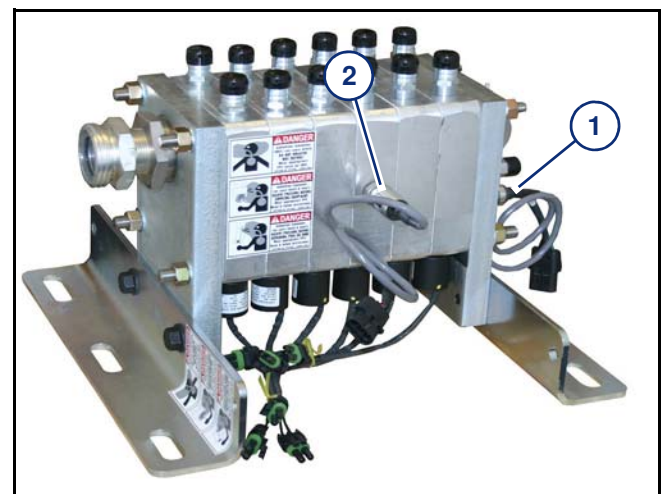

Figure 7
**[Figure 7]** - The pressure sensor harness connects to the pressure sensor extension harness and to the inlet and outlet pressure sensors on the N-Ject® manifold.